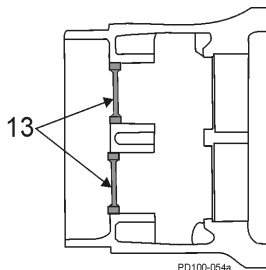

Figure 75 - Remove Rear Oil Seals
8. Press out and discard both rear oil seals in the gear case (Figure 75, item 13).